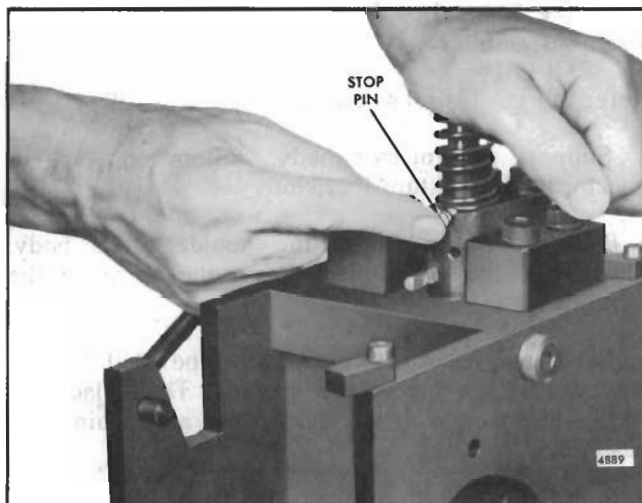

Fig. 41 - Installing Injector Follower Stop Pin
3. Refer to Fig. 41 and place the stop pin on the injector body so that the follower spring rests on the narrow flange of the stop pin. Then align the slot in